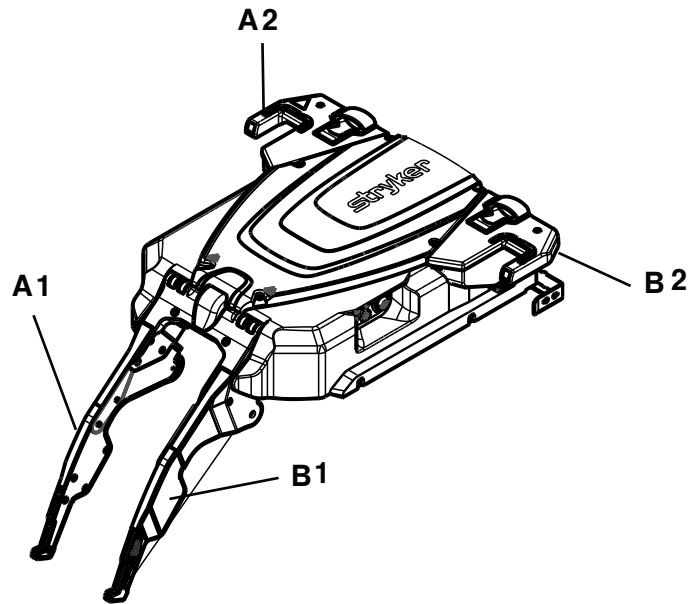

Figure 5 – Trolley hand positions
- c. Installer 1, position hands at A1 and A2 (Figure 5).
- d. Installer 2, position hands at B1 and B2 (Figure 5).